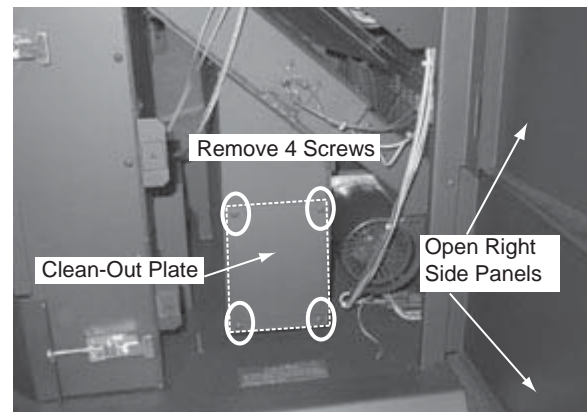

Figure 32.3
1. Open both the upper and lower right side panels. **Figure 32.3.**
2. Using a Phillips head screwdriver remove the 4 screws from the clean-out plate and set aside. **Figure 32.3.**